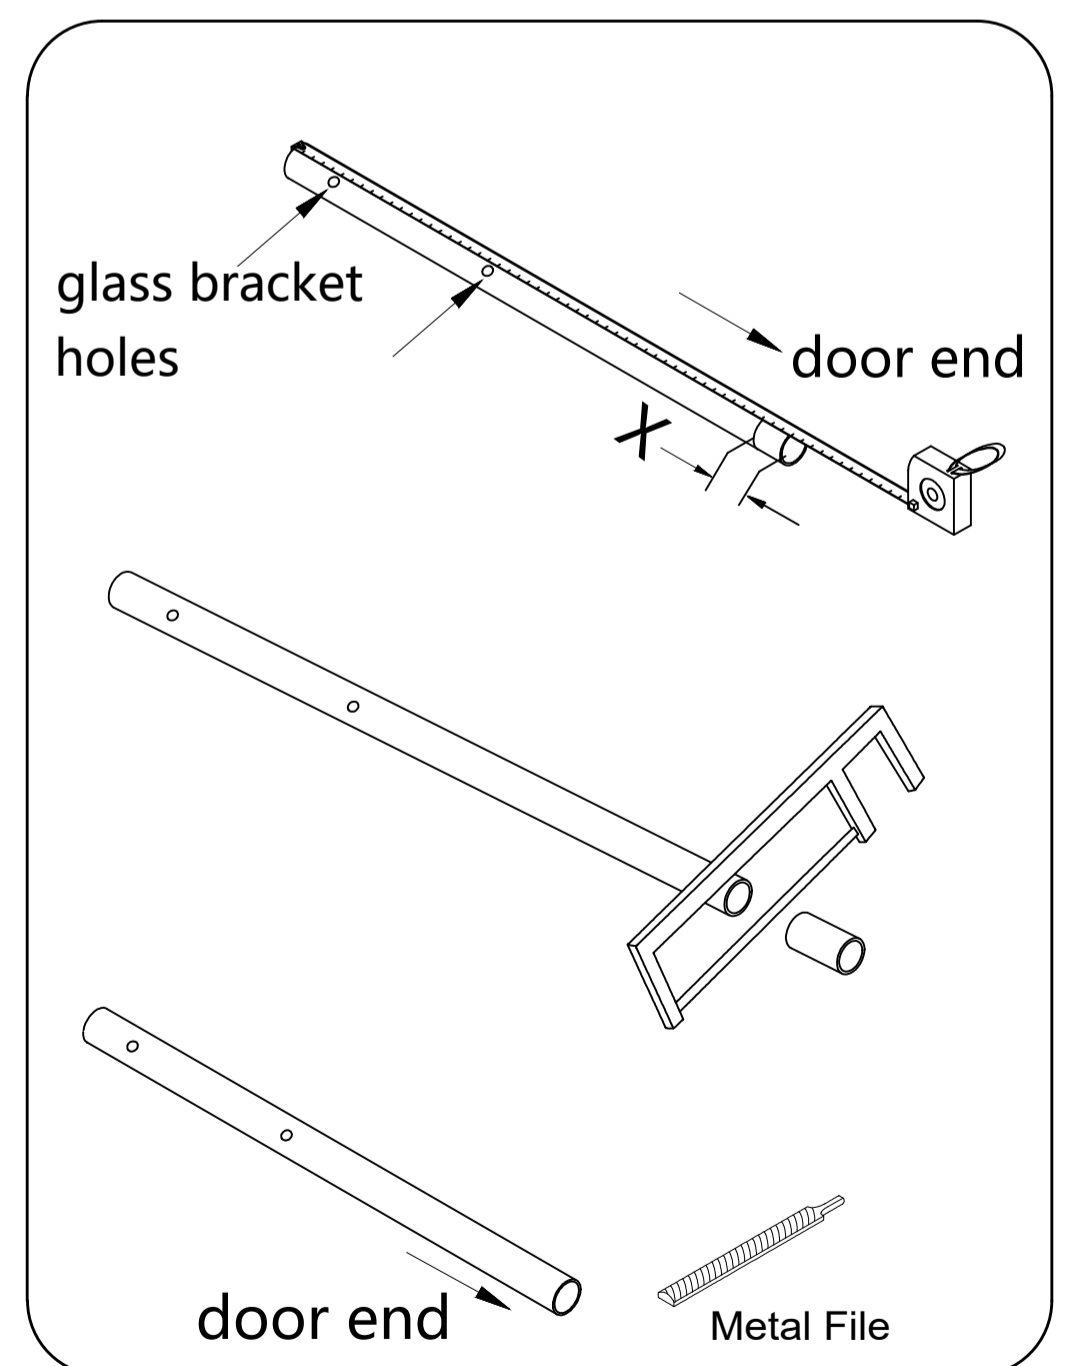

Fig 2
Cut the **Upper Guide Rail (I)** from the door end only, which is the end that is farther from the **Glass Bracket (H)** holes. Use a metal file to remove any burrs from the cut end. (**Fig 2**)